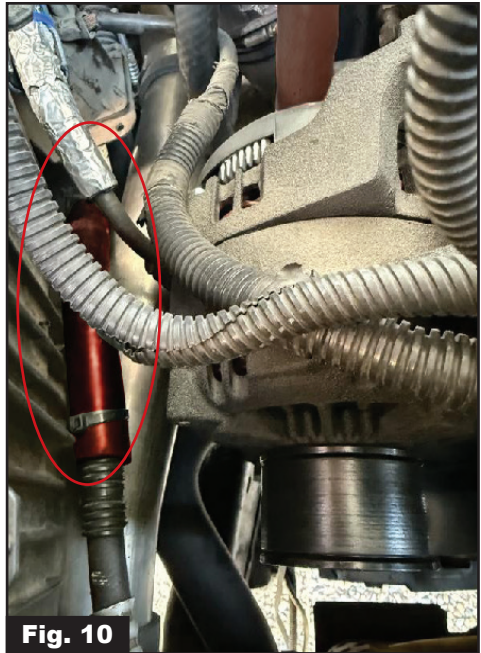

Fig. 10
Step 11. (Optional) Wrap the Heat Sleeve (J) around the wire loom and secure it with Zip Ties (K). This will protect the wire loom from rubbing (Fig. 10).